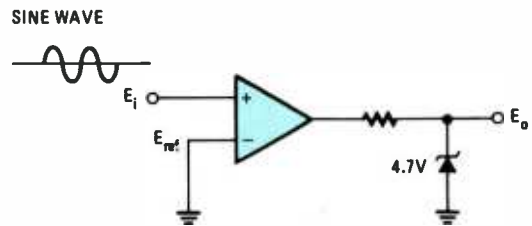
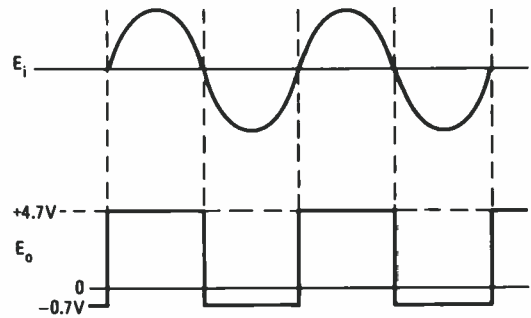
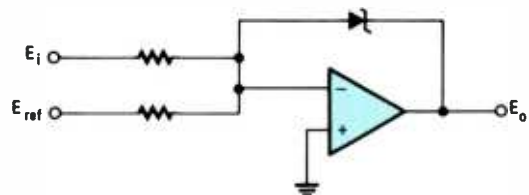

Fig. 17—This op-amp comparator's input voltage is a sinewave.
Fig. 18—These are the input and output waveforms of a comparator with  $E_{ref} = 0$ .
Fig. 19—An alternate comparator circuit. The polarity of  $E_i$  and  $E_{ref}$  must be opposite.
Refer to Fig. 17. The reference input is \_\_\_\_\_ volts. Draw the output if the input is a sine wave.
33. (zero, See Fig. 18) In Fig. 17, the reference is ground or zero volts. Therefore, the output will switch from -0.7 to +4.7, or +4.7 to -0.7 when  $E_i = 0$ . That will happen when the sinewave input varies from + to - or - to +. The circuit, therefore, converts a sinewave into a squarewave as shown in Fig. 18.
Another way to connect an op-amp as a comparator is shown in Fig. 19. The + input is grounded and two input resistors are used in a summing configuration to accept the
input and reference signals. A Zener diode is used as the feedback element, and as a result it will produce outputs of  $-0.7$  and  $+4.7$  volts, the same as for the circuit in Fig. 17. The only special requirement of the circuit in Fig. 19 is that the polarity of  $E_i$  and  $E_{ref}$  be opposite one another. Otherwise, the circuit switches from binary 0 to 1 or 1 to 0 when  $E_i = E_{ref}$ .